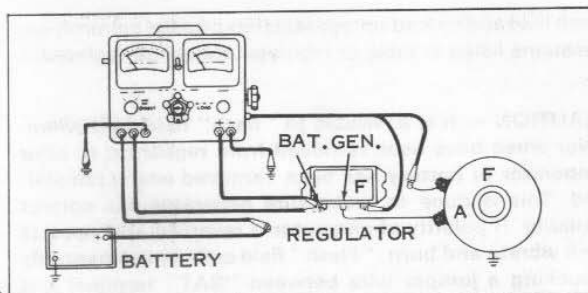

Figure 5-33.
E. TESTING VOLTAGE CONTROL UNIT SETTING (Figure 5-33)
F. TESTING CURRENT CONTROL UNIT SETTING (Figure 5-33)